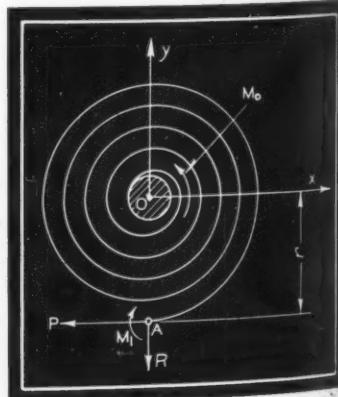

Fig. 2 — Spiral spring with large number of turns, clamped outer end
In the first analysis it will be assumed that the outer end of the spring is clamped as indicated in *Fig. 2*. It also will be assumed that the spring has a large number of turns which are, however, separated sufficiently so that adjacent turns do not come in contact during deflection (1)*. The inner end of the spring is fastened to an arbor which pivots about point *O* and is acted on by a torque M_o .